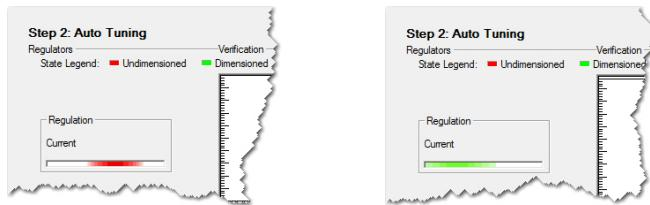

Figure 3-31 Regulation Tuning – Identification (left) / Verification (right)
- First, control parameters will be identified – during this process, the motor shaft will oscillate, the respective red status bar will be moving (→Figure 3-31, left).
- Then, identified control parameters will be verified by evaluating their step response – during this process, the motor shaft will oscillate, the respective green status bar will be moving (→Figure 3-31, right).